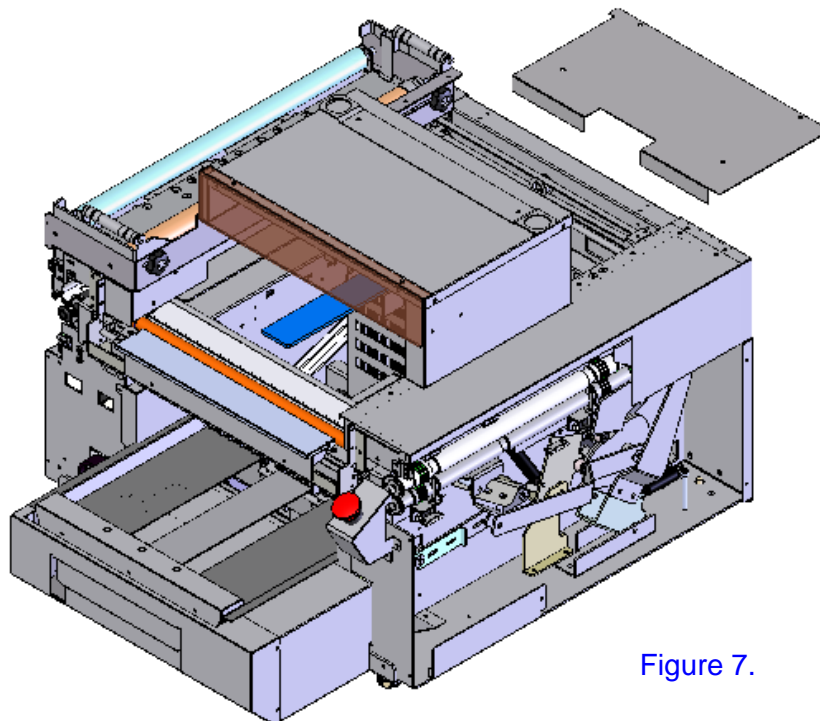

Figure 7.
12. Remove the second rear, upper cover (four screws). See Figure 7.